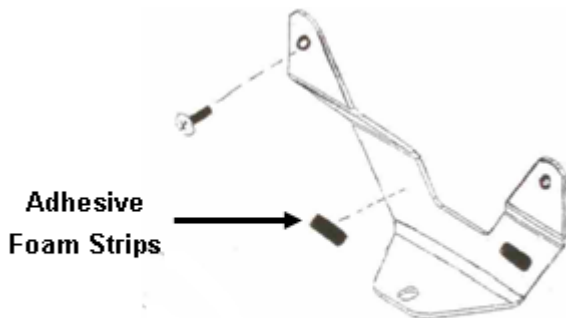

Figure 1
1. Attach two Adhesive Foam Strips on the Relocation Bracket as shown in Figure 1.